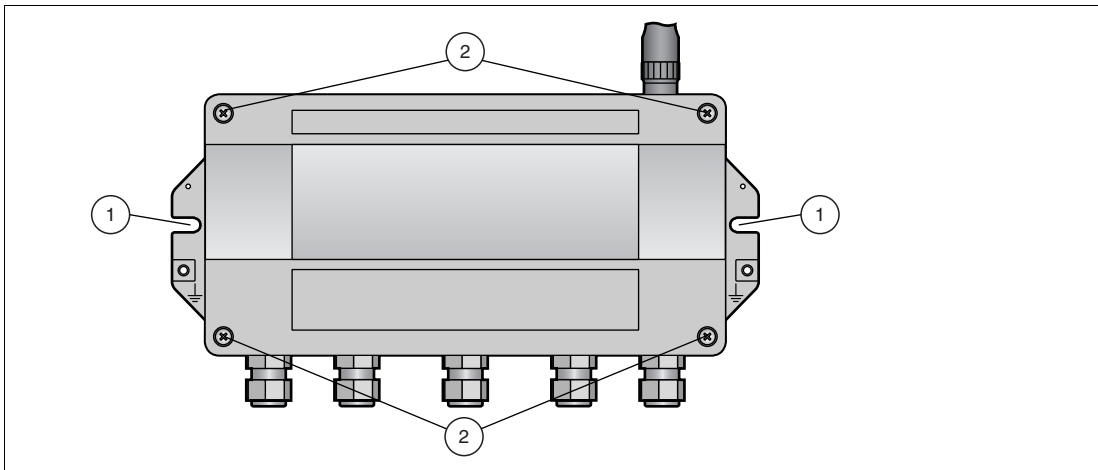

Figure 3.8 Mounting holes and enclosure screws
2. Unscrew the 4 screws of the enclosure cover. → see Figure 3.8 on page 26